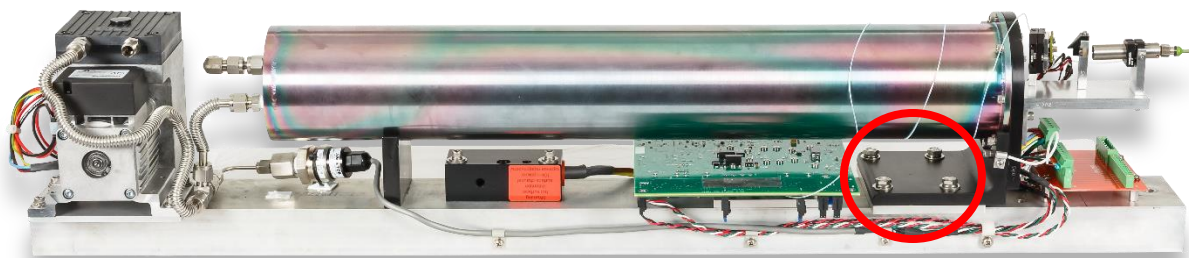

Figure 59: Location of Bolts Securing Herriott Cell
12. Locate the bolts securing the Herriott cell to the component rail as indicated in Figure 59.